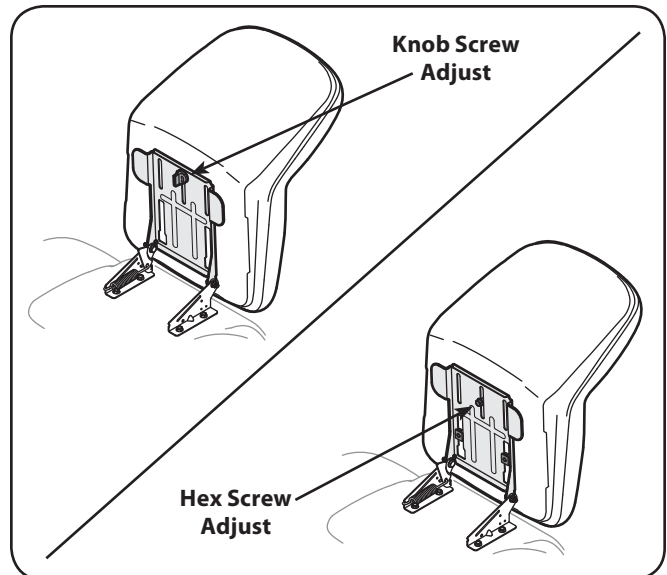

Figure 3-5
8. To adjust the position of the seat, loosen the hex screw (or knob screw if applicable) on the bottom of the seat. Slide the seat forward or backward as desired. Retighten the hex screw (or knob screw if applicable). See Fig. 3-5.